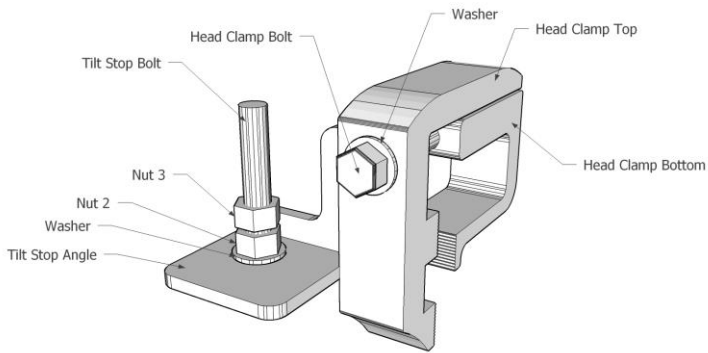
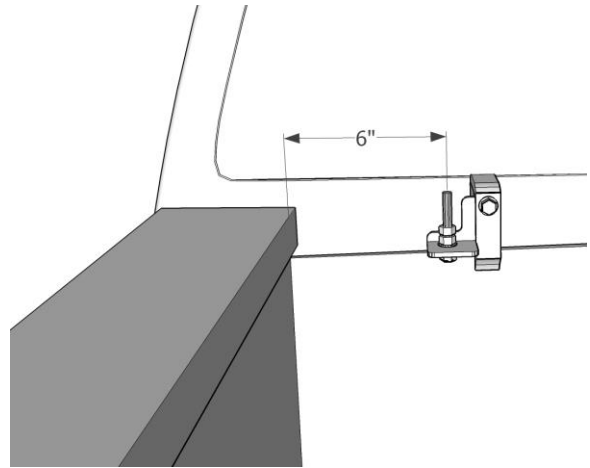

FIGURE 8.1
FIGURE 8.2
Position the driver side head-clamp on the head rail so the exposed tilt-stop-bolt is vertical and pointing upwards (Fig 8.1). Locate the head-clamp so the tilt-stop-bolt is approximately 6" from the inside edge of the driver side bed rail (Fig 8.2). You may place a clamp-protection-pad between the head-clamp and the inside of the truck bed to protect the finish. Gently tighten the head-clamp-bolt enough to lightly hold its position.
- 2) The tilt-stop-bolt will be slightly loose at this stage (Fig 8.1).**